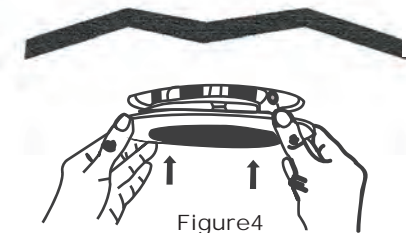

Figure4
**STEP5:** Tuck all wires into the housing and carefully push the LED trim until its outer edge is flush against the ceiling surface. (Figure 4)